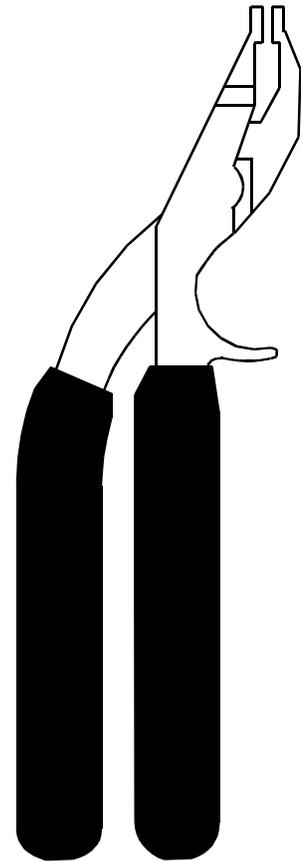

Figure 1
1. Hold the pliers in your right hand with the jaws up and the trigger toward you. Hold the Zippertubing in your left hand with the channel on the right (Figure 1).